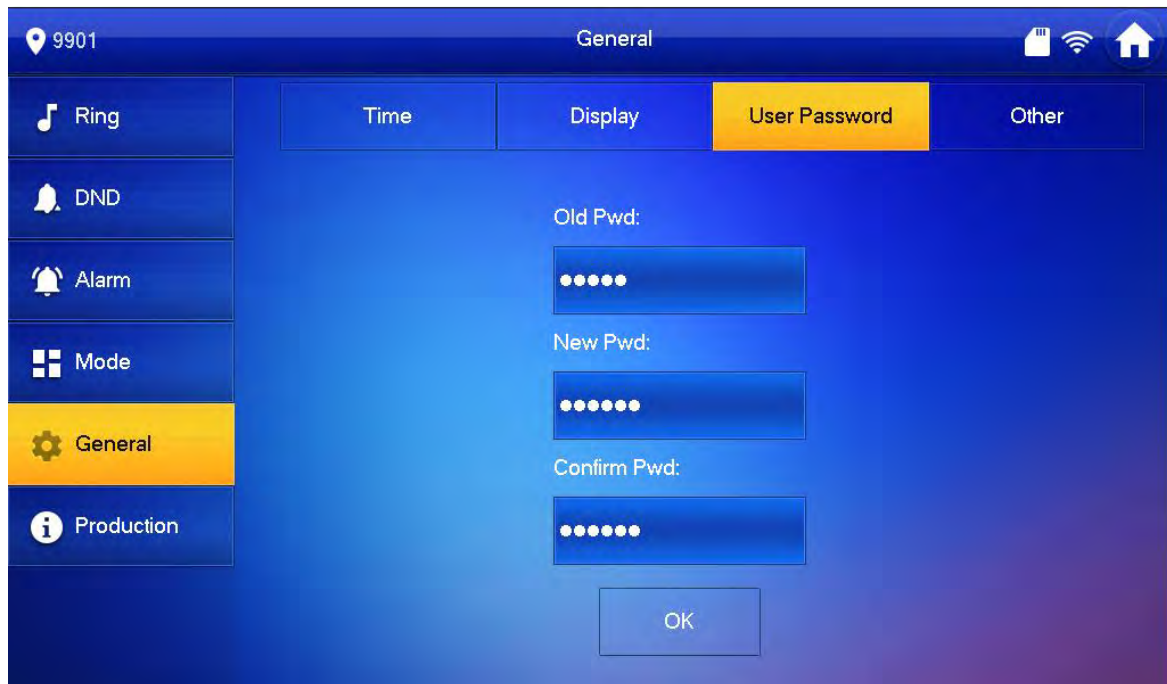

Figure 5-8
Step 2. Enter old password, new password and confirm new password once. See Figure 5-8.